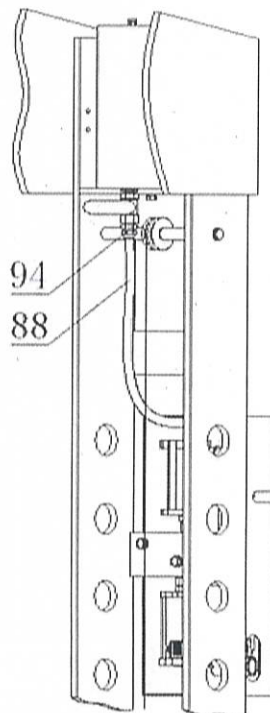

Fig. 5
11.2.3 Then connect the oil hose (88) to 1/2" connector (94) (refer to fig.5). Once the oil supply hose is connected, open the oil tank valve to allow the flow of oil and check for leaks.